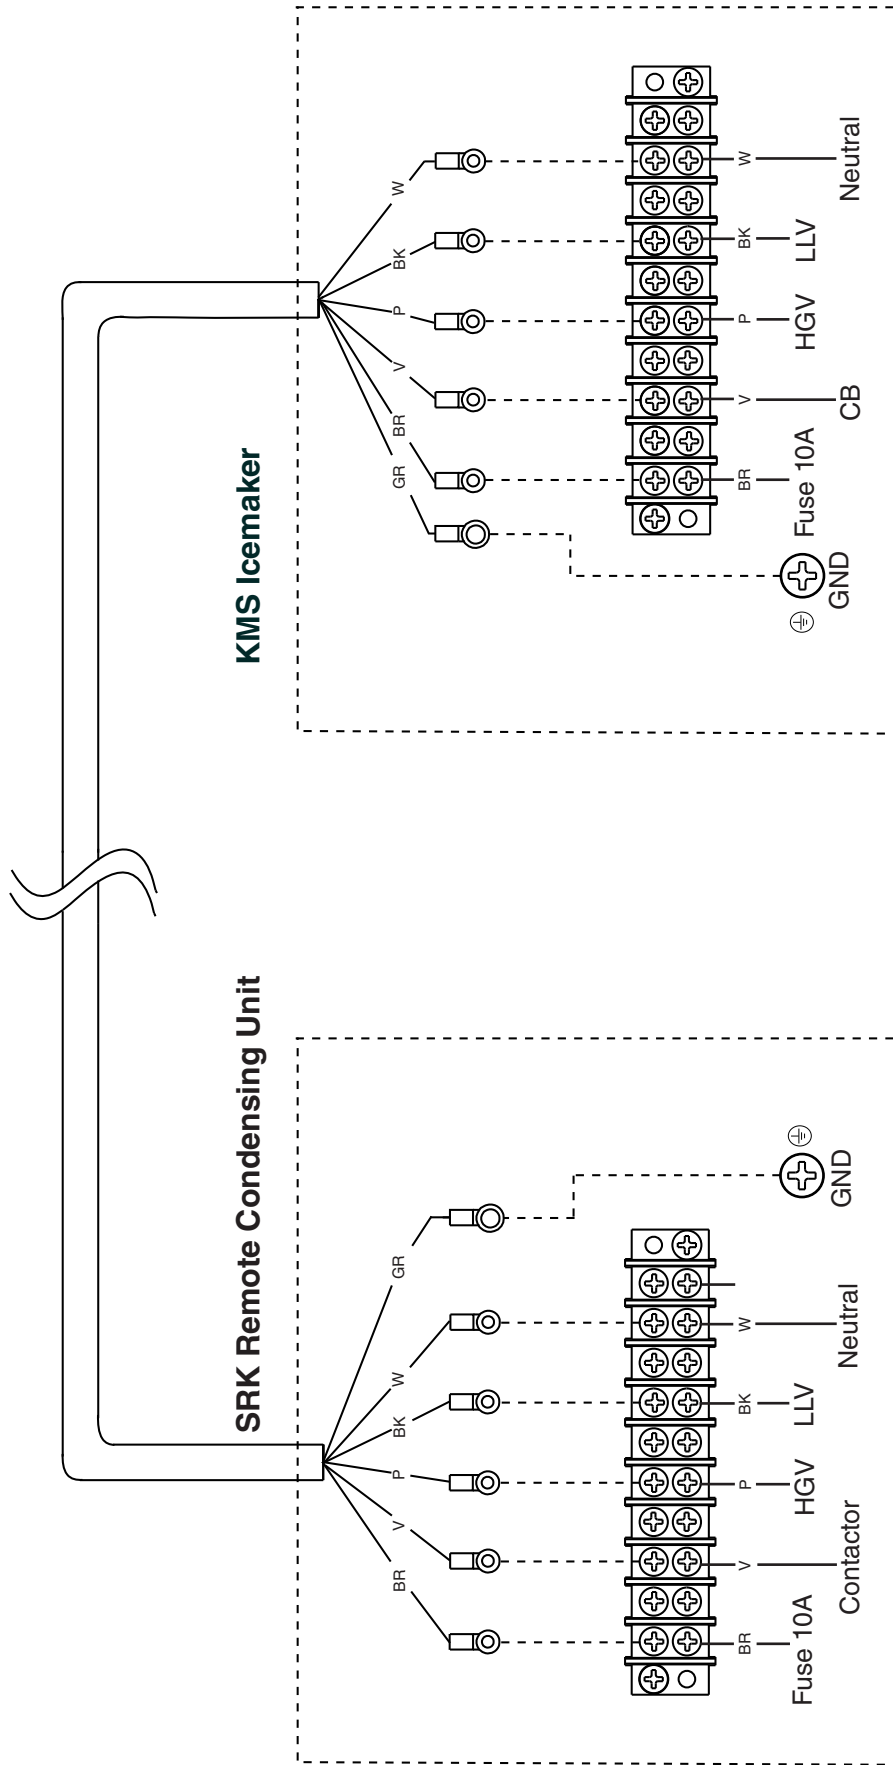

Fig. 11
- 3) Connect the power supply from the disconnect or electrical panel to the leads in the remote condensing unit's power supply junction box. This differs from KM style installations. Connect a ground wire to the ground screw. See Fig. 11.